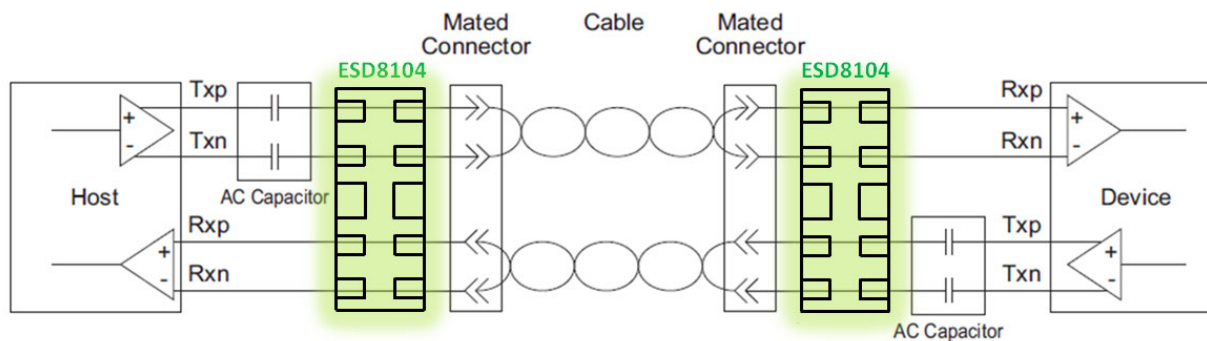

Figure 16. USB 3.0/3.1 Connection Diagram
- ◆ In USB 3.0/3.1 applications, the ESD protection device should be placed between the AC coupling capacitors and the I/O connector on the TX differential lanes as shown in Figure 16.